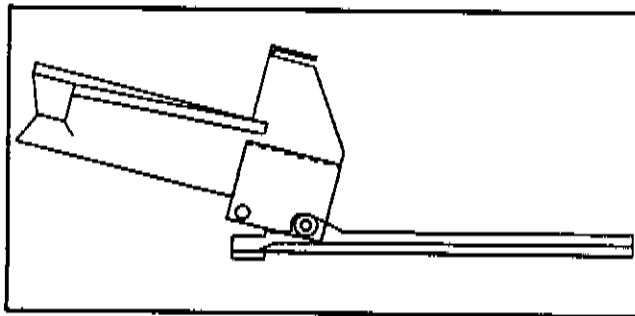

Fig. 5-2
1. Carefully pull the shelf out to a normal service position (See Figure 5-2).